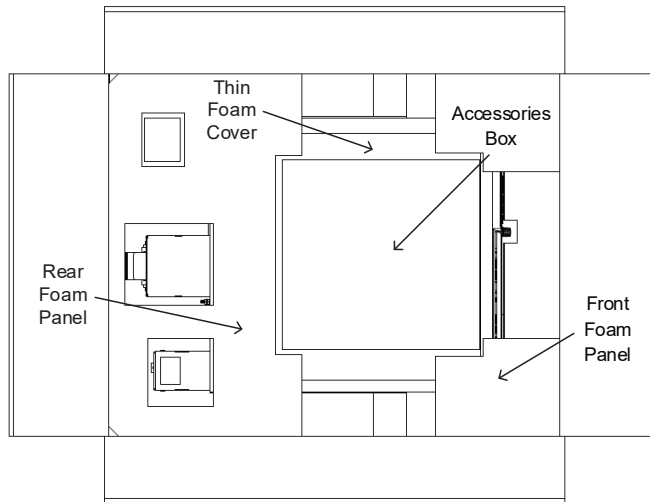

Figure 4-43: GSP Unpack – Accessories Box, Foam Panels and Foam Cover
2. Gently remove the accessories box, front foam panel, rear foam panel and thin foam cover as shown in Figure 4-43.